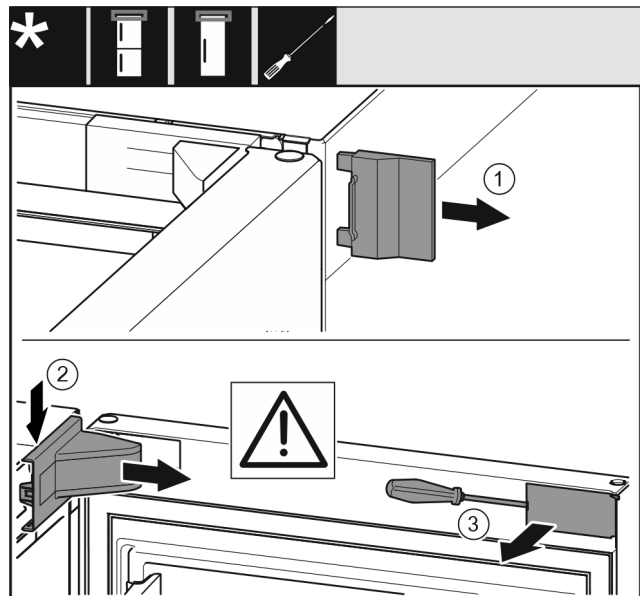

Fig. 7
- Remove the outer cover *Fig. 7 (1)*.
- Disengage and remove the swap bearing block cover *Fig. 7 (2)*.
- Use a slotted screwdriver to unlatch the trim *Fig. 7 (3)* and swing it to the side.